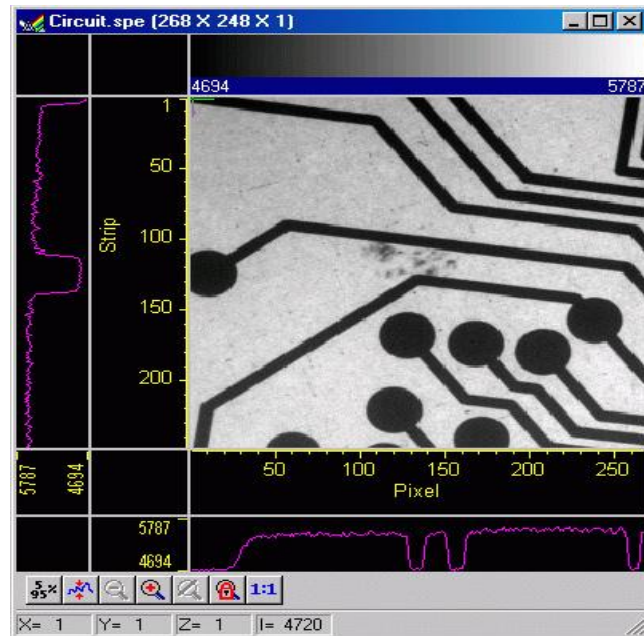

Figure 103. *Circuit.spe* with Axes and Cross-sections
5. The display should now appear as shown in Figure 103. The axes will be labeled in image pixels and strips with respect to the CCD chip used to acquire the image. The vertical image intensity profile at the cursor position will be displayed to the left and the horizontal image intensity profile at the bottom. The minimum and maximum values for each profile are indicated. Note that you can use the mouse and drag the axes and profile boundaries to change the size of the profile display regions. To change the cursor location, simply click the mouse at the new spot. The cross-sectional graphs will change to reflect the profiles at the new location.